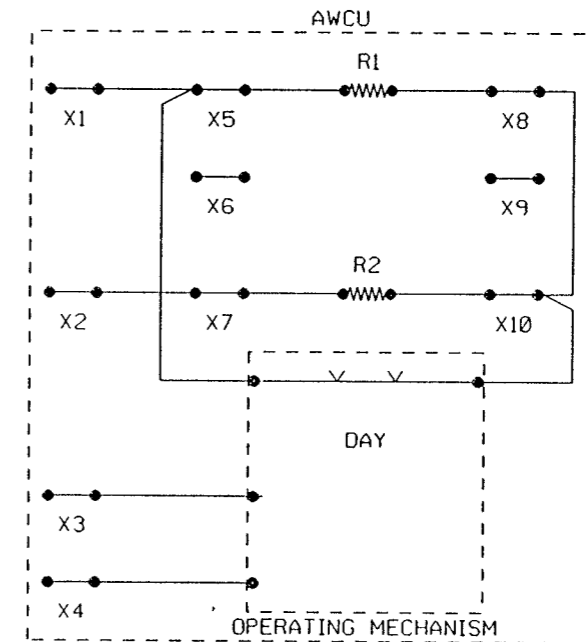
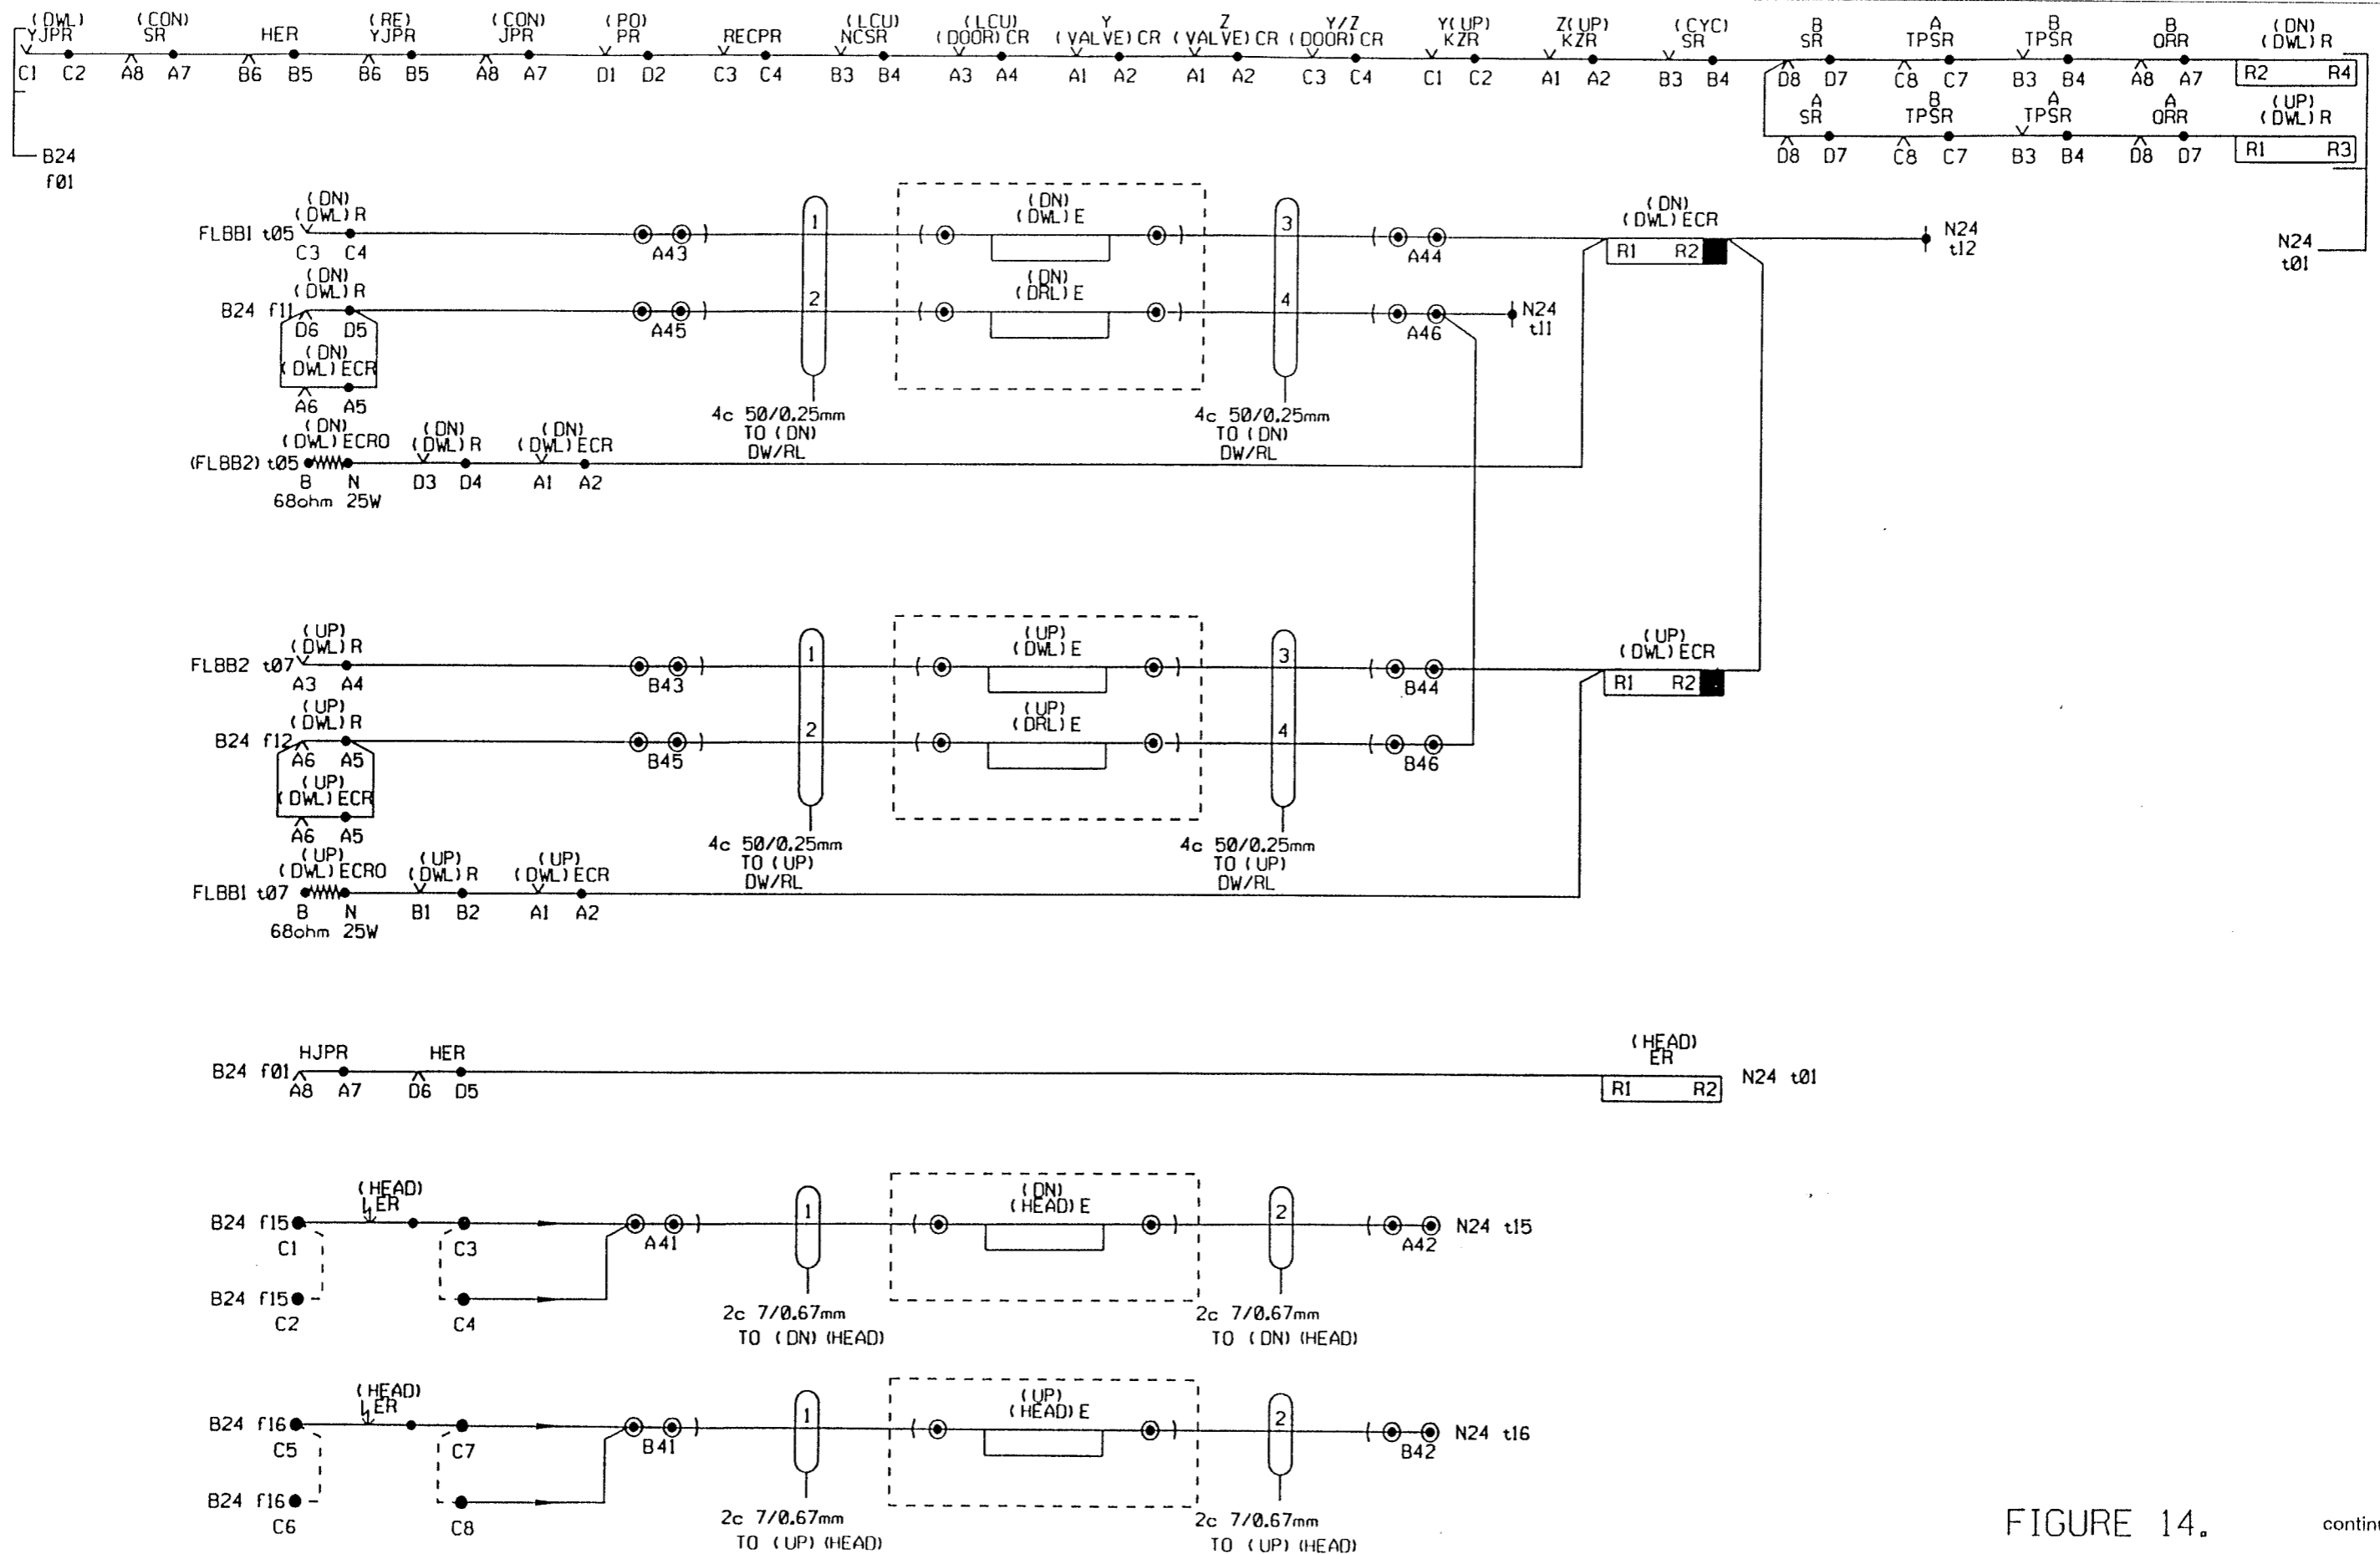

FIGURE 11
FIGURE 14. continued
As already mentioned when the (CON)JPR energised it broke the feed to the EJR but this relay will not have de-energised yet as it has a slow to release feature of 7.5 seconds. Before the EJR does de-energise the (UP)KR must energise in order to keep the HJPR energised. The (UP)KR energises when the barriers reach 81 degrees from the horizontal. Energising the HJPR causes the audible warning to stop (Figure 11). It also causes the (HEAD)ER to de-energise which extinguishes the simulated train headlights (Figure 14).
When the run off track circuit became occupied B TPSR de-energised (DN)(DWL)R(Figure 14), this relay in turn de-energised (CYC)SR(Figure 9).
After 180 seconds the (DWL)YJR will de-energise, followed by the (DWL)YJPR(Figure 9) which will de-energise the (DN)(DWL)R. The (DN)(DWL)R will extinguish the Driver's Flashing White Light and illuminate the Driver's Flashing Red Light (Figure 14), it will also energise the (RE)YJPR after 30 seconds, via the following:-
With the barriers raised, turning the switch from "RAISE" to the "AUTO" position shall start the normal lowering sequence. After the barriers are proved down the (LCU)NCSR will energise, and energise the (CON)SR provided the strike in controls are normal. The (CON)SR will energise the (LCU)SR, and these two relays will allow the (CON)JR to energise and continue the barrier raising sequence (Fig 9). Closing the LCU door is proved in the (DWL)R's (Fig 14).